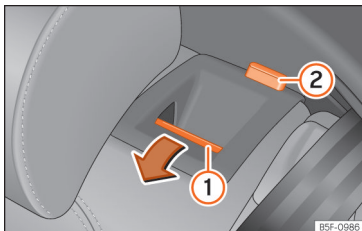

Fig. 123 Rear seat: folding the backrest.
- Pull the unlock button »» **Fig. 123** ① forward and lift the backrest at the same time. The rear seat backrest is not engaged when the red marking of the button ② is visible.